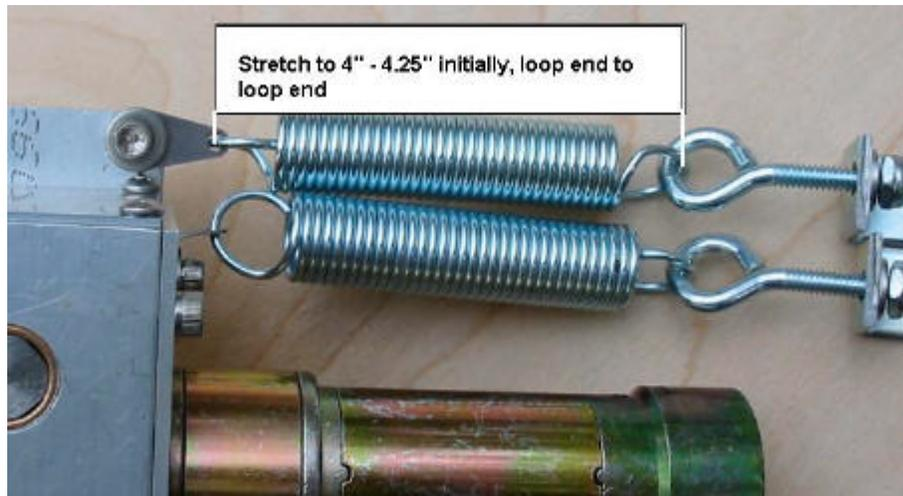

Figure 7 Spring initial tension setting for bracket placement
- 41) Pull the spring bracket back away from the motor and perpendicular to the gearbox body as shown in figure 7 below. With the eyebolt on the spring bracket set with its nut at the end of the threads (max extension) pull the spring until it is stretched, end of loop to end of loop 4 - 4 1/4". Mark and drill the mounting hole for the bracket (the back hole is usually more convenient to use by either is fine - only one per bracket is necessary). Use a 1/8" pilot hole and the supplied #10 3/4" (not the 1" Altitude screws) wood screw to mount the bracket. Repeat with the second spring/bracket. Ensure the bracket is straight inline with the spring - pointing parallel with the motor (gold tube). See Figure 7